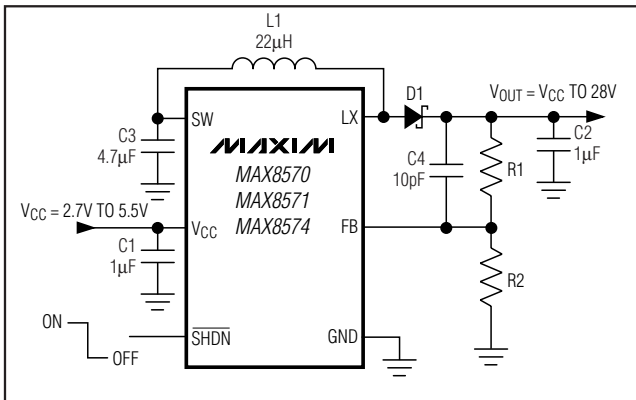
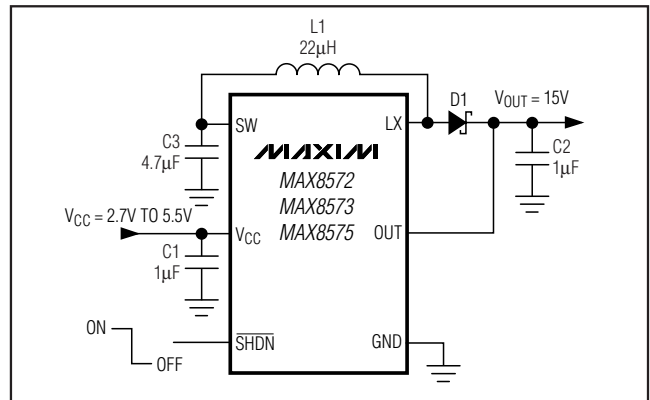

Figure 2. Typical Application Circuit with Adjustable Output Voltage
Figure 3. Typical Application Circuit with 15V Preset Output Voltage
(MAX8571,  $V_{CC} = 3.6V$ ,  $V_{OUT} = 18V$ , Circuit of Figure 2,  $T_A = +25^{\circ}C$ , unless otherwise noted.)
(MAX8571,  $V_{CC} = 3.6V$ ,  $V_{OUT} = 18V$ , Circuit of Figure 2,  $T_A = +25^\circ C$ , unless otherwise noted.)
**LINE TRANSIENT 3V TO 5.5V (FIGURE 3, MAX8573)**
The output voltage of the MAX8570, MAX8571, and MAX8574 is adjustable from VCC to 28V by using a resistor voltage-divider (see Figure 2). Select R2 from 10kΩ to 600kΩ and calculate R1 with the following equation:
The MAX8572, MAX8573, and MAX8575 have a fixed 15V output. When using these parts, connect OUT directly to the output (see Figure 3).
The MAX8570 family uses two soft-start mechanisms. When the true-shutdown feature is used (SW is connected as in Figure 2 and Figure 3), the gate of the internal high-side p-channel switch turns on slowly to prevent inrush current. This takes approximately 200µs. When SW is fully turned on, the internal n-channel switch begins boosting the input to set the output voltage. When VFB is less than 0.5V (with or without the use of True Shutdown), the minimum off-time of the internal n-channel switch increases from 1µs to 5µs to control inrush current.
For the MAX8570/MAX8571/MAX8574 a feed-forward capacitor (C4 in Figures 2 and 4) connected from the output to FB improves stability over a wide range of battery voltages. A 10pF capacitor is recommended for the MAX8571 and MAX8574. A 10pF to 47pF capacitor is recommended for the MAX8570. Note that increasing C4 degrades line and load regulation.